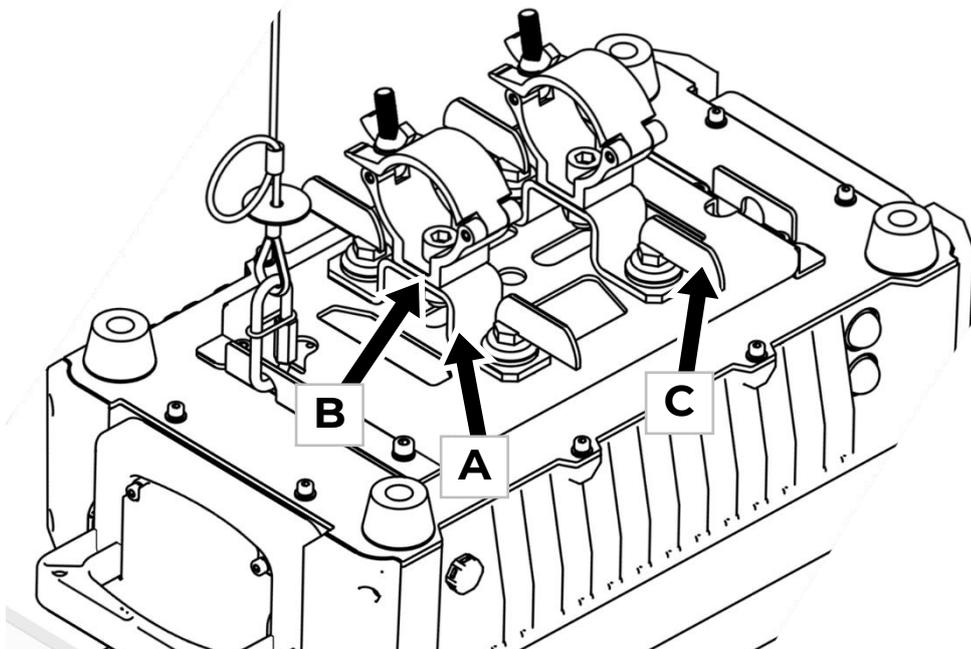

Figure 6. Rigging brackets
- First figure 6: Dust-tight – No ingress of dust, complete protection against contact.
2. See Figure 6. Bolt a rigging clamp securely to each of the two rigging brackets **A** that are supplied with the fixture using high-tensile steel screws or bolts and self-locking nuts with washers passed through the central holes **B** in the rigging brackets.